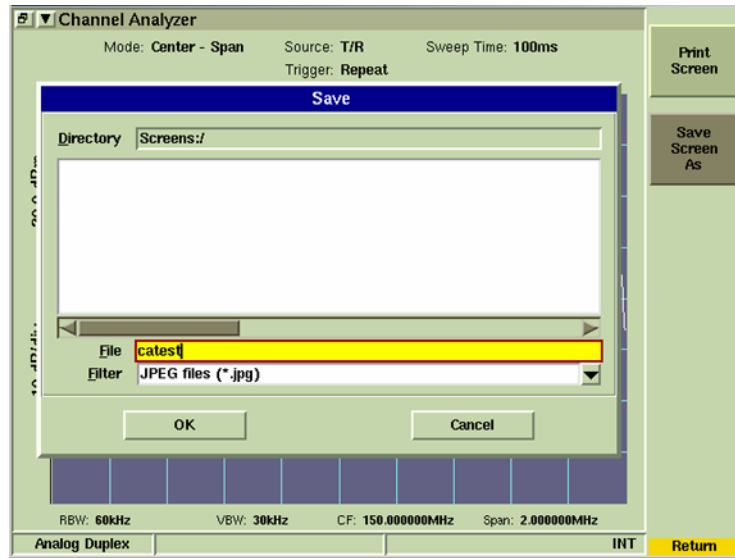

Fig. 3-58 Save Screen As Dialog Box
1. Select the **[Save Screen As]** soft key. A Save dialog box is displayed as shown in Fig. 3-58.